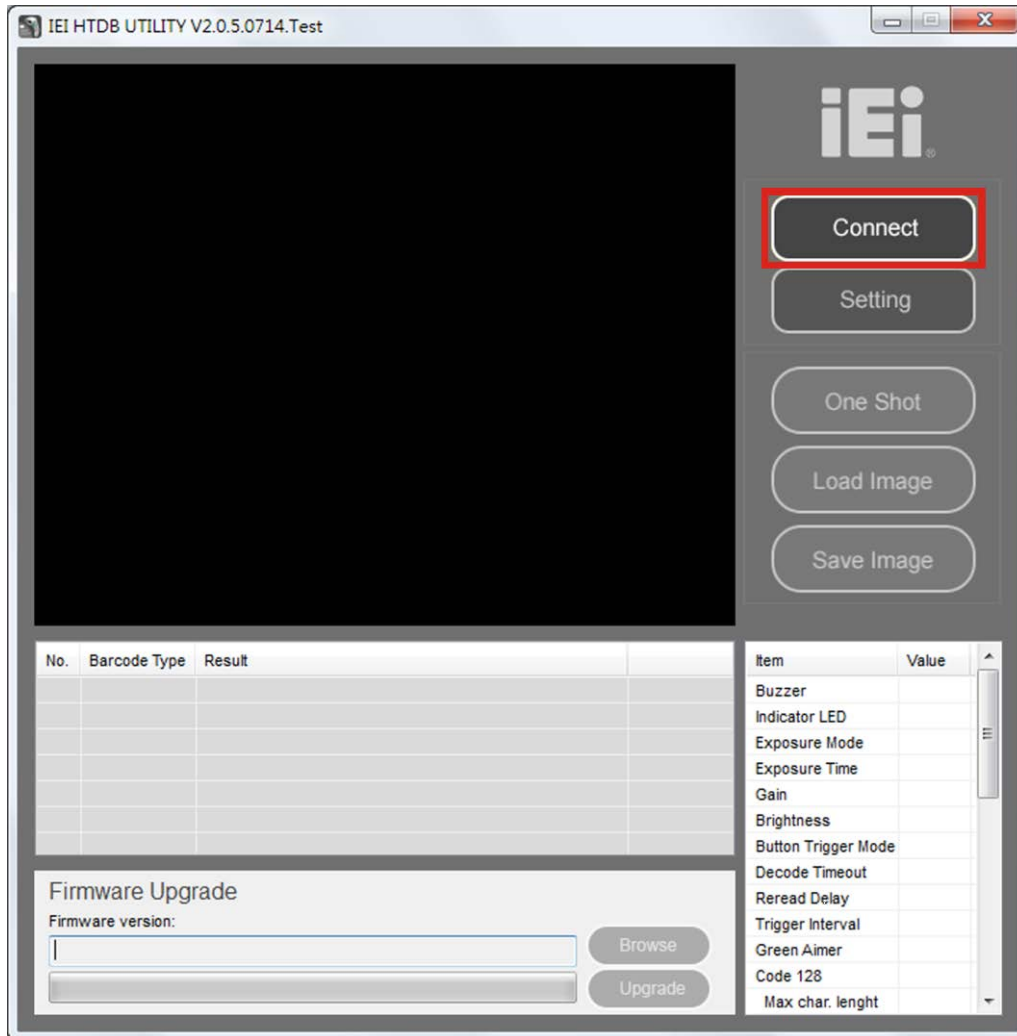

Figure 3-7: Activating the IEI HTDB UTILITY
Step 3: The main menu of the IEI HTDB UTILITY appears. Click **Connect** to activate the utility (**Figure 3-7**).